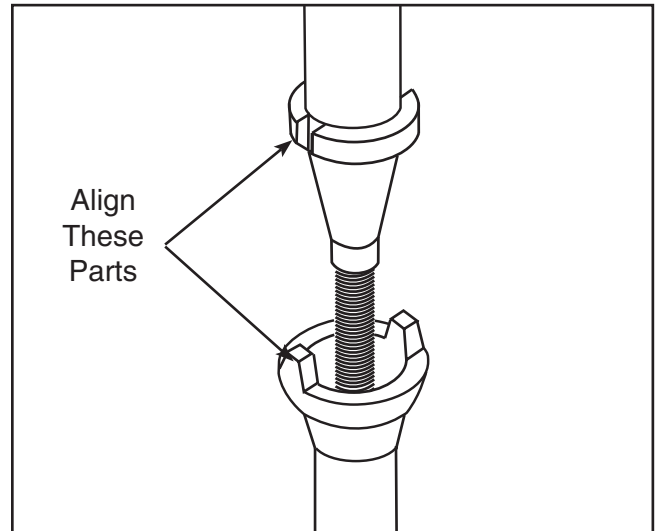

Figure 7. Installing spindle into the cartridge.
3. Drop the spindle/drawbar into the spindle cartridge at the top of the table. Line up the notches at the top of the spindle cartridge with those in the spindle as shown in **Figure 7**. You will feel the spindle seat itself.